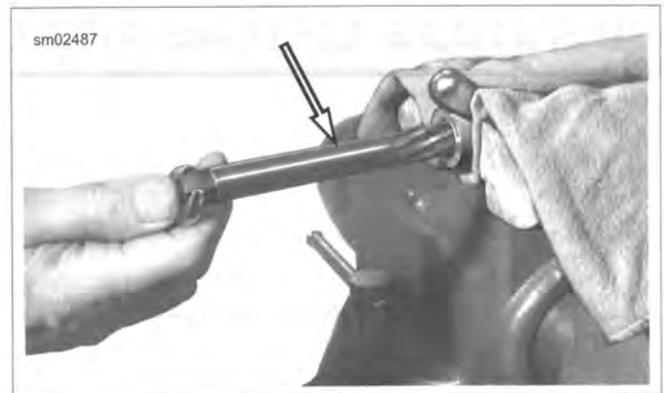

Figure 3-34. Ream Bushing
- a. See Figure 3-34. Lock rocker arm in a vise using brass jaw inserts or shop towels to prevent casting damage. Note that old bushing on drive side of reamer as pilot.